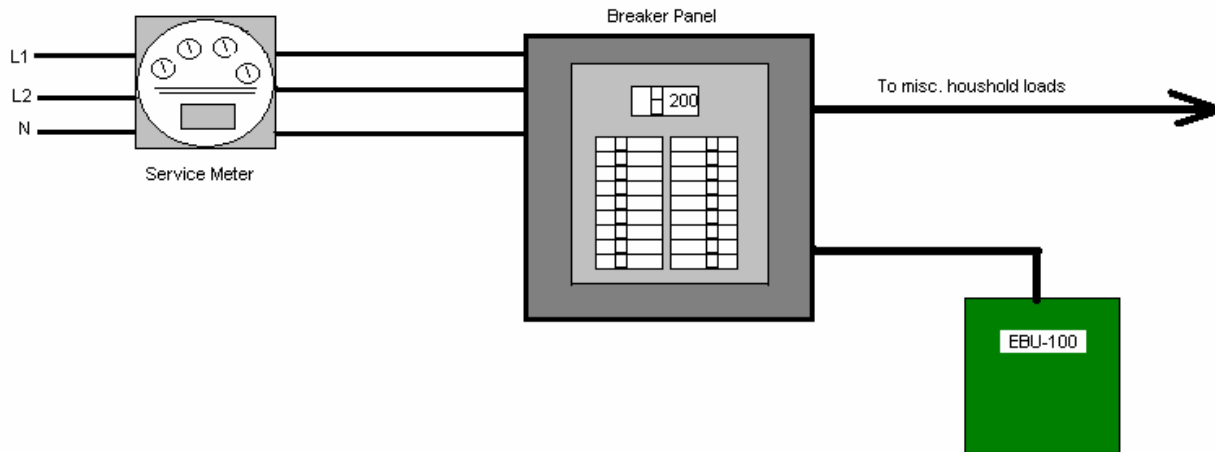

Figure 1 EBU-100 Typical Installation Block Diagram
The test results will show that with the EBU-100 installed as illustrated in figure 1 will reduce the power measured at the source meter an average of 33%. The test load was variable from 0.4 kW to ¾ kW. When the EBU-100 was switched on the power meter reading reduced to between 0.3 kW to ½ kW respectively with no loss of motor speed or torque.
2. **Test Setup:** The EBU-100 is an energy saving unit. It is intended to be installed in parallel to service meter and all household loads. A typical block diagram installation is given in figure 1.